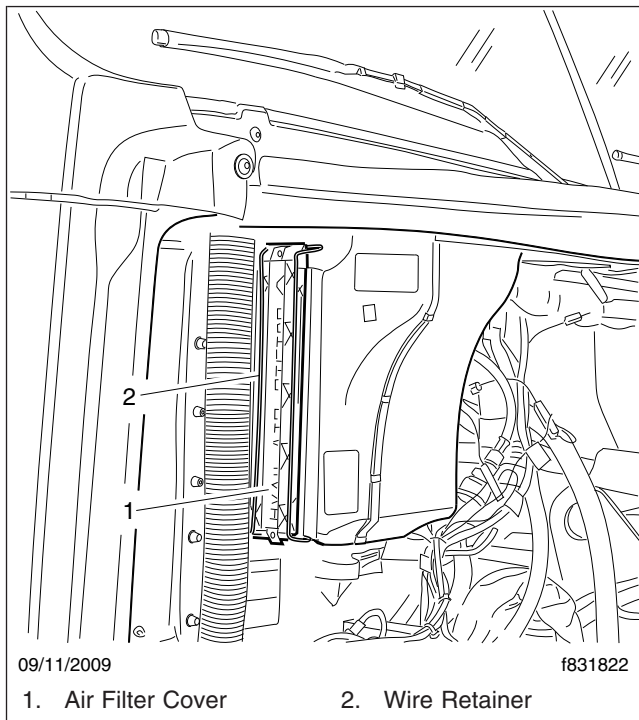

Fig. 2, HVAC Air Intake Plenum
2. Lift the wire retainer on the air filter cover up and over the upper edge of the cover and pull the wire retainer down; see Fig. 2.